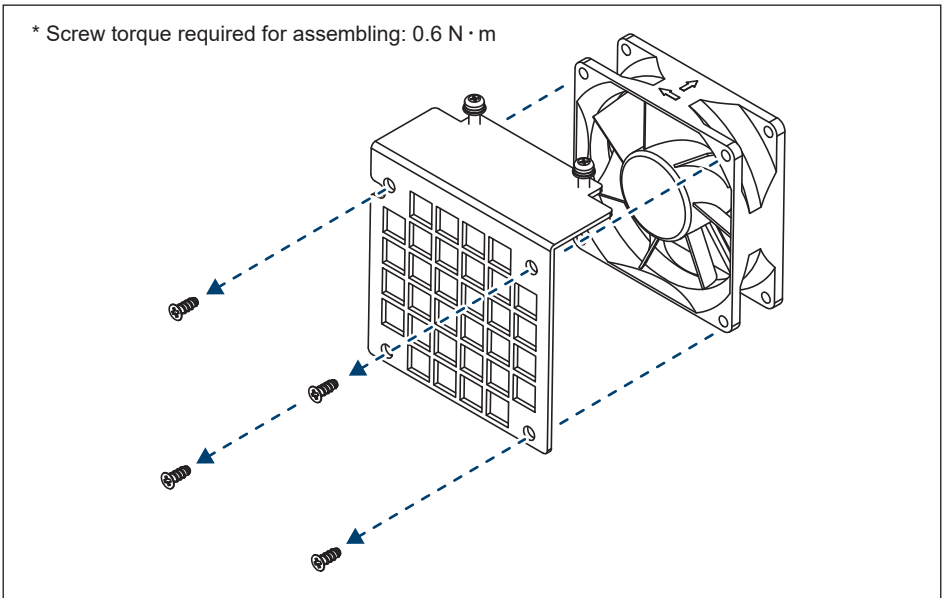

Figure 5-17: Replace with a new fan
- (4) Clean assembly or replace with a new fan. (shown in **Figure 5-17**)
- (5) Reassemble using a tightening torque of $0.8 \text{ N} \cdot \text{m}$.